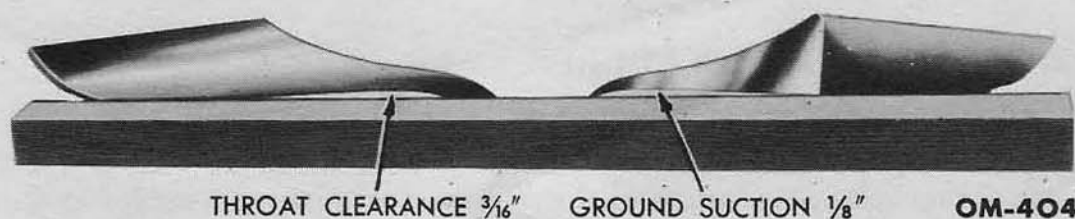

Fig. 76—Ground Suction and Throat Clearance
(1) Use a clean, well-banked forge fire, and heat $\frac{1}{3}$ of the share point to a cherry red temperature. With an anvil and blacksmith hammer, draw the point as near the original shape as possible. Do not continue to work the metal after it has lost its heat.
(2) Heat a 2- or 3-inch length of the cutting edge to a cherry red temperature, and draw it to its original shape, otherwise the share may warp. Continue this step until all of the cutting edge has been sharpened.
(3) Heat the point and set the ground suction at approximately $\frac{3}{16}$ inch and the throat clearance at approximately $\frac{1}{8}$ inch (fig. 76).
(4) To harden soft center shares, heat the cutting edge and quench by slowly moving it in and out of the tempering brine, water, or oil. Forged steel shares should not be hardened.